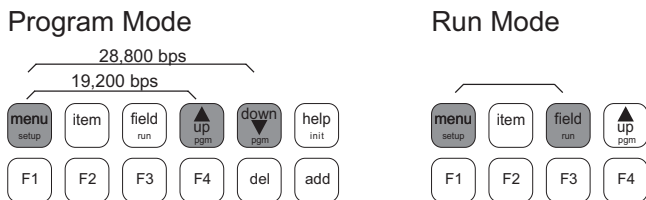

Figure 4-1. 2x6 Keypad Mode Settings
2. With power off, hold down the appropriate keys on the keypad, apply power. Refer to Figure 4-1 for the appropriate keypress combinations.
Figures 4-1, 4-2, and 4-3 illustrate keypad and jumper settings for program modes for different PK2200 configurations. The keypad keypress combinations for the 3x4 keypad will work only with the PK2240. The keypad keypress combination for the 2x6 keypad will work with any PK2200 with a 2x6 keypad. If programming at normal 19,200 bps, then press the “menu setup” and “up pgm” keys. If programming at 28,800 bps, then press the “menu setup” and the “down pgm” keys. You may also set the programming baud rate with jumpers on JP4.